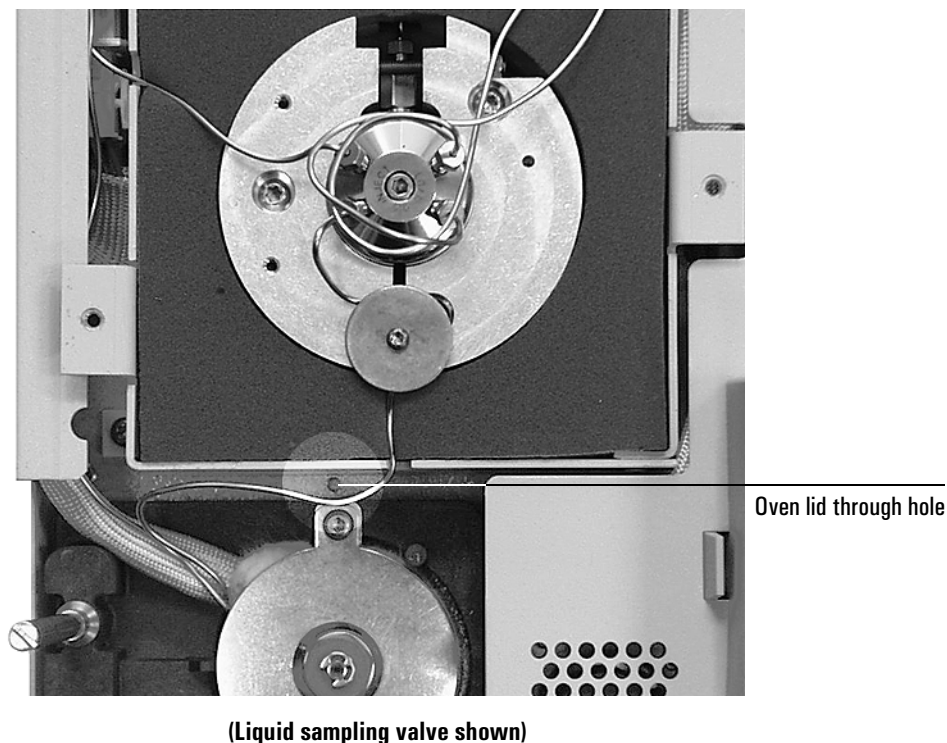

Figure 3. Location of oven lid through hole
2. Locate the small through hole in the oven lid between the purged packed inlet and the valve box. There is a corresponding hole in the bottom of the oven lid, behind the inlet. Use a spare 1/16-inch tube, a wire or a thin screwdriver to clear the insulation from this hole. See Figure 3.